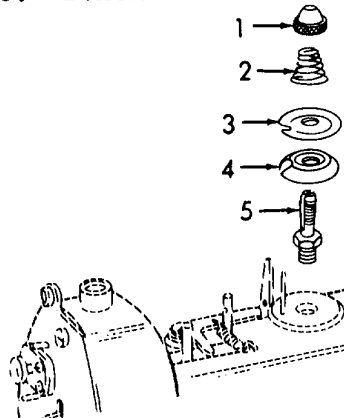

Figure 6-118. Front Thread Tensioner, Removal.
- (8) Refer to Figure 6-118. Remove knurled nut (1).
- (9) Remove spring (2).
- (10) Remove upper and lower tension discs (3 and 4).
- (11) Remove stud (5).